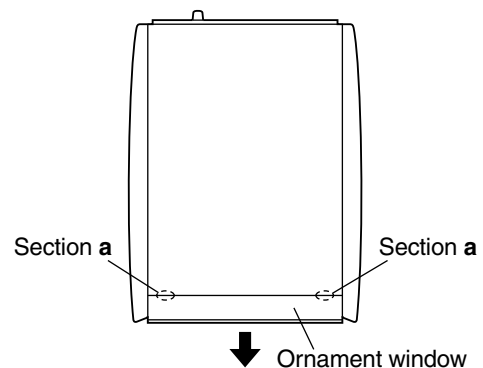

Fig.9
■ Removing the LED board (See Figs. 9 and 10.)